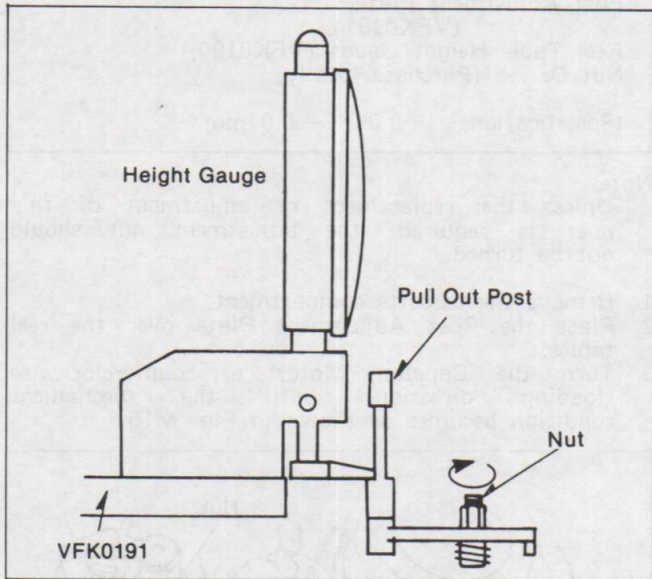

Fig. M18
- Place the Reel Table Height Gauge as shown in Fig. M18 and turn the nut slowly until the gauge reads $-0.06 \pm 0.01\text{mm}$.